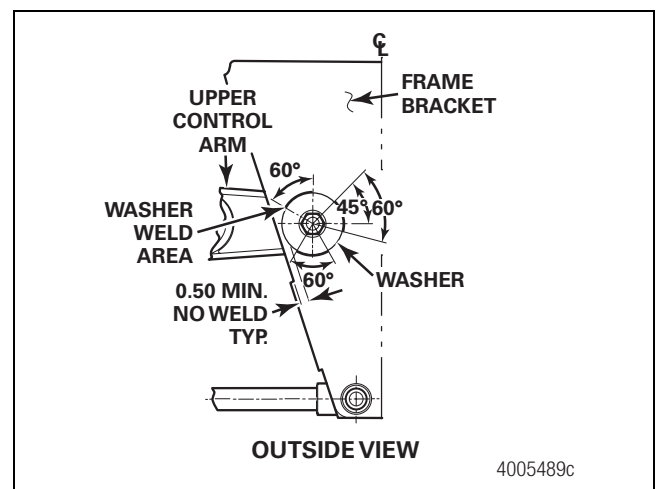
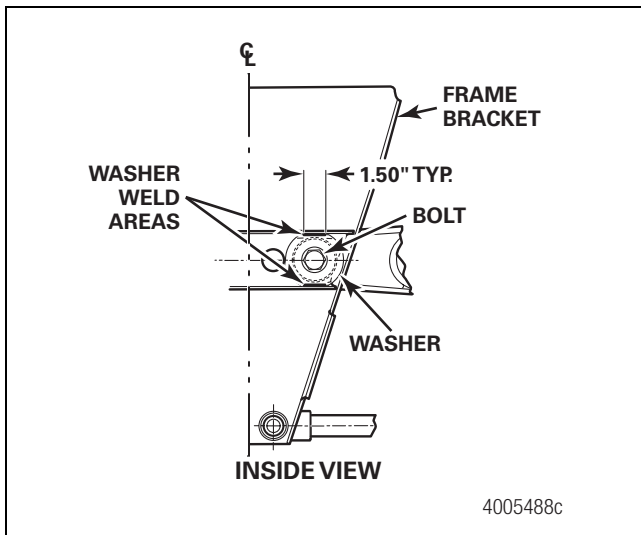

Figure 13
Figure 14
11. Weld the inner and outer special washers. Place a wet rag inside the side plate when welding the special washers to absorb the heat. Do not expose the new bushings or thrust washers to excessive heat or they will be damaged. Figure 13 and Figure 14.